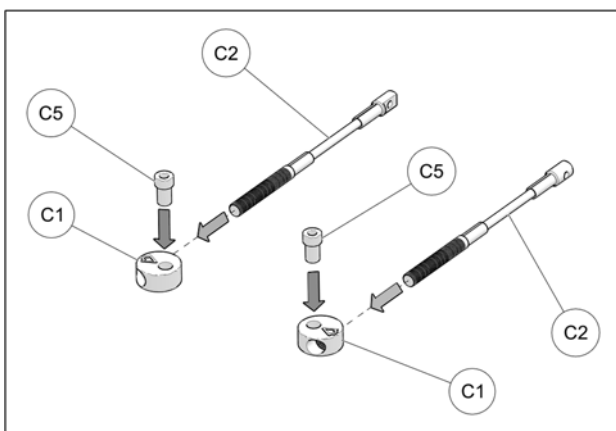

Fig. 18
10. Assemble steering limiter cables (C2), aluminum disks (C1) and step spacers (C5) together as shown on Fig. 18